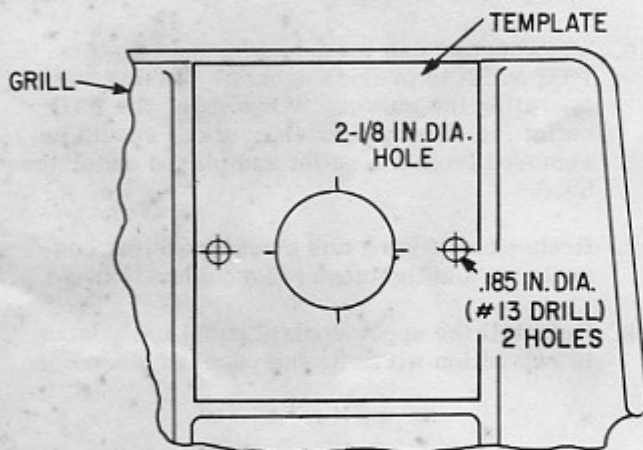

Figure 1A
1. Place the supplied template on the outside of the grill in the upper portion of the center panel. See Figure 1A. The template is used to mark the location of 3 mounting holes to install the outlet.